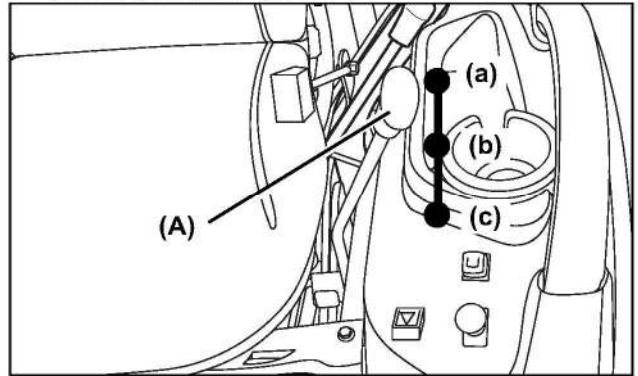

Fig 7-7
1. Move the range shift lever (Fig 7-7) to the N (neutral) position. (SA424)